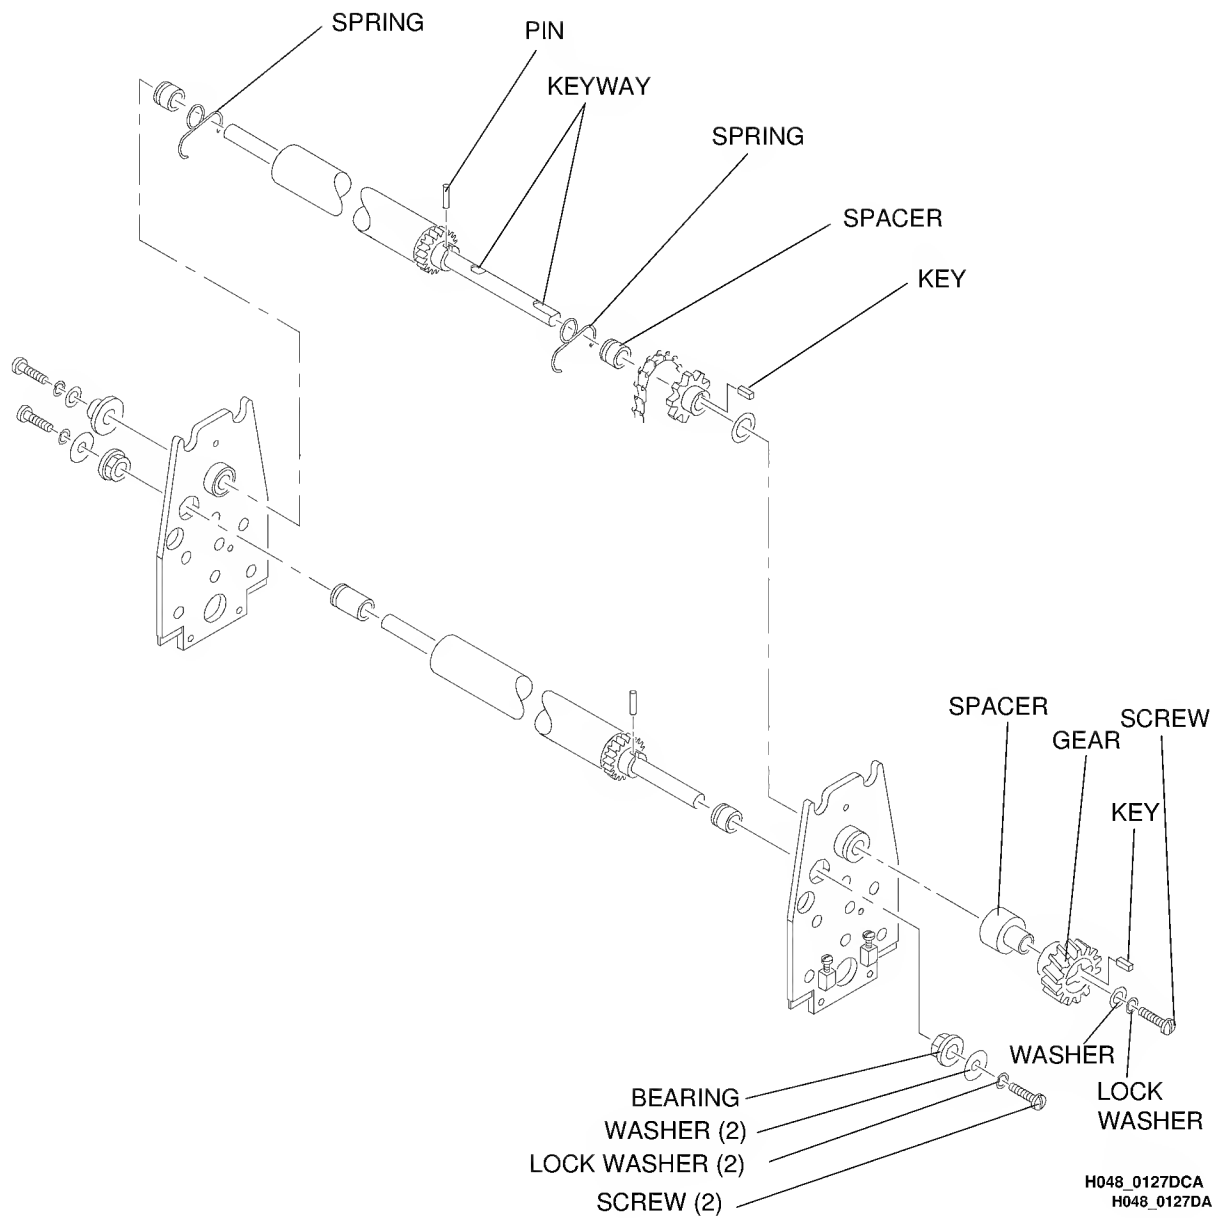

Figure 2-7 Disassembling the Resilient Pressure Drive Roller from the Wash Rack
- SCREWS, GEAR, SPACERS, and BEARINGS from the outside of both SIDE PLATES. See figure 2-7.